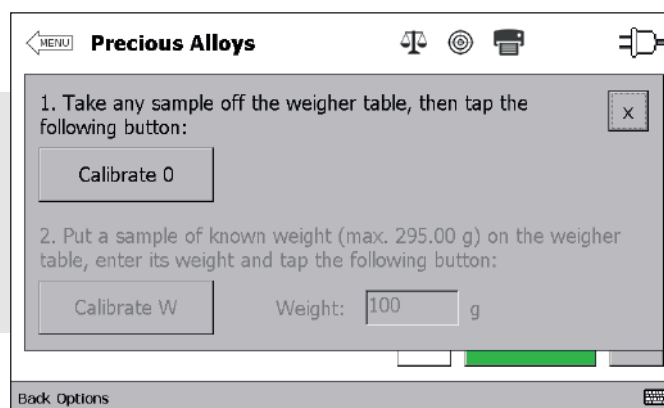

Fig.28. Weigh-scales calibration window
1. Open the device lid. If the weigh-scales window does not open, tap the touch button  at top of the screen. In the weigh-scales window, tap the **Calibrate** button. Calibration of the weigh-scales is considered to be a protected function, so the programme will ask the password. Enter **xrf** and tap the **Login** button. A new window opens with the calibration instructions (**fig.28**).